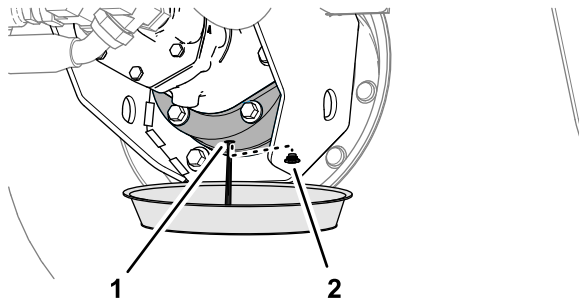

Figure 89
- Place a drain pan under the brake housing, remove the drain plug, and allow the oil to drain completely (Figure 89).